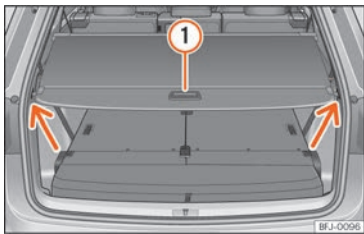

Fig. 152 In the boot: shelf of the boot closed.
• Pull the cover backwards with the handle »» Fig. 152 ① and remove it above the anchor point (arrows). Move the cover forward carefully.